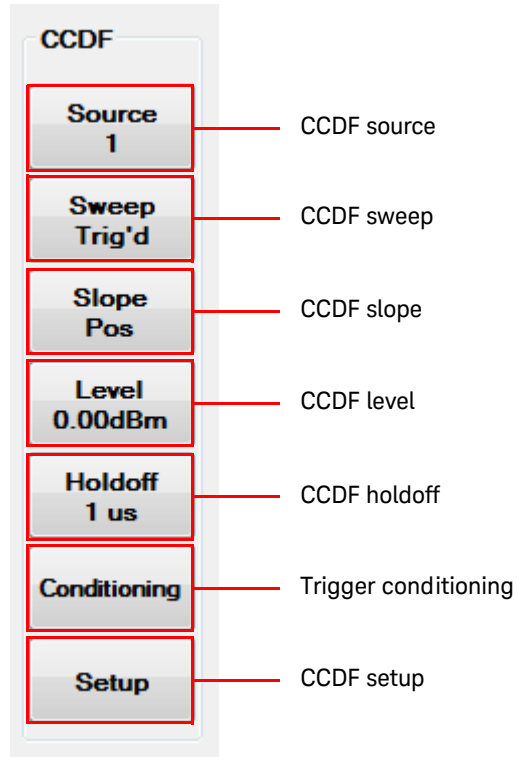

Figure 2-87 CCDF menu on the graphical interface
- 5 To configure the CCDF settings, select the individual buttons on the CCDF menu to toggle between selections or access the menu dialog as shown in Figure 2-87.